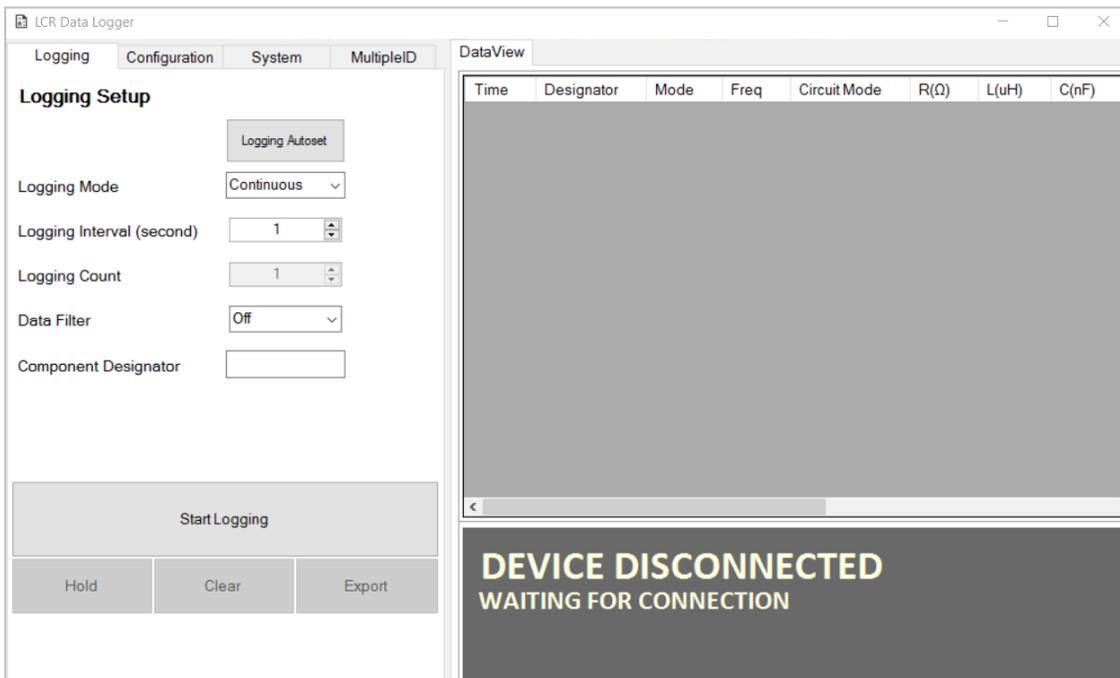

Figure 3-4: Message that Device not Connected
- If the software hasn't connected to the device, GUI shows the "DEVICE DISCONNECTED, WAITING FOR CONNECTION" message as Figure 3-4 shows.